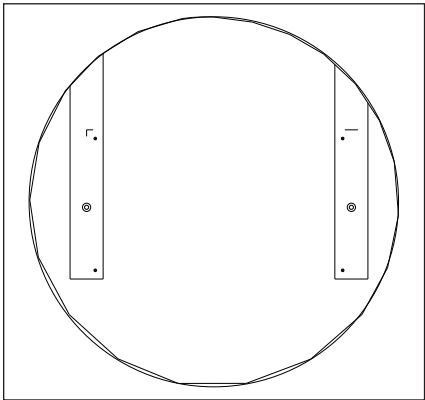

Figure 3: Pre-Drill Holes into Tube
- 4. Pre-drill holes into the tube at the marked mounting locations. Refer to **Figure 3**.